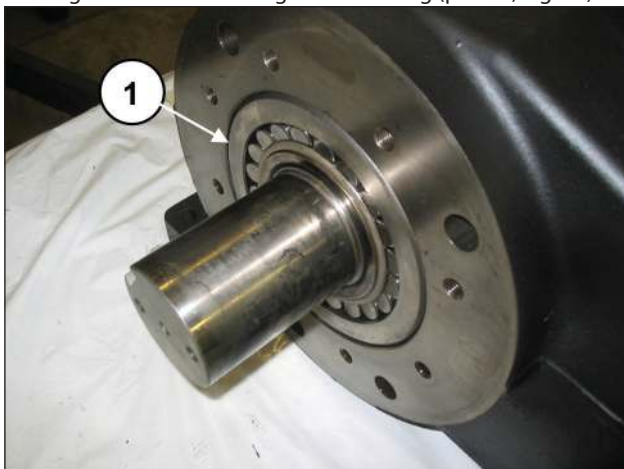

Fig. 44
Insert the shaft (pos. ①, Fig. 30) until the pre-assembled bearing is flush with the edge of the casing (pos. ①, Fig. 44).